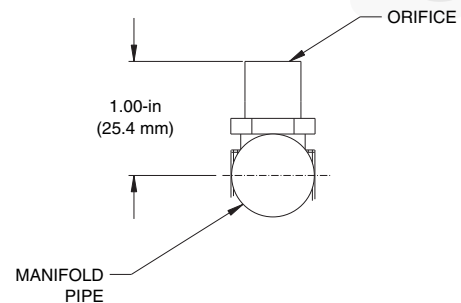

Fig. 54 - Orifice Projection
Refer to Fig. 54 for maximum projection dimension for orifice face to manifold tube.
5. If factory orifice has been removed, check that each orifice is tight at its threads into the manifold pipe and that orifice projection does not exceed maximum valve. See Fig. 54.
Check that each replacement orifice is tight at its threads into the manifold pipe and that orifice projection does not exceed maximum value. See Fig. 54.